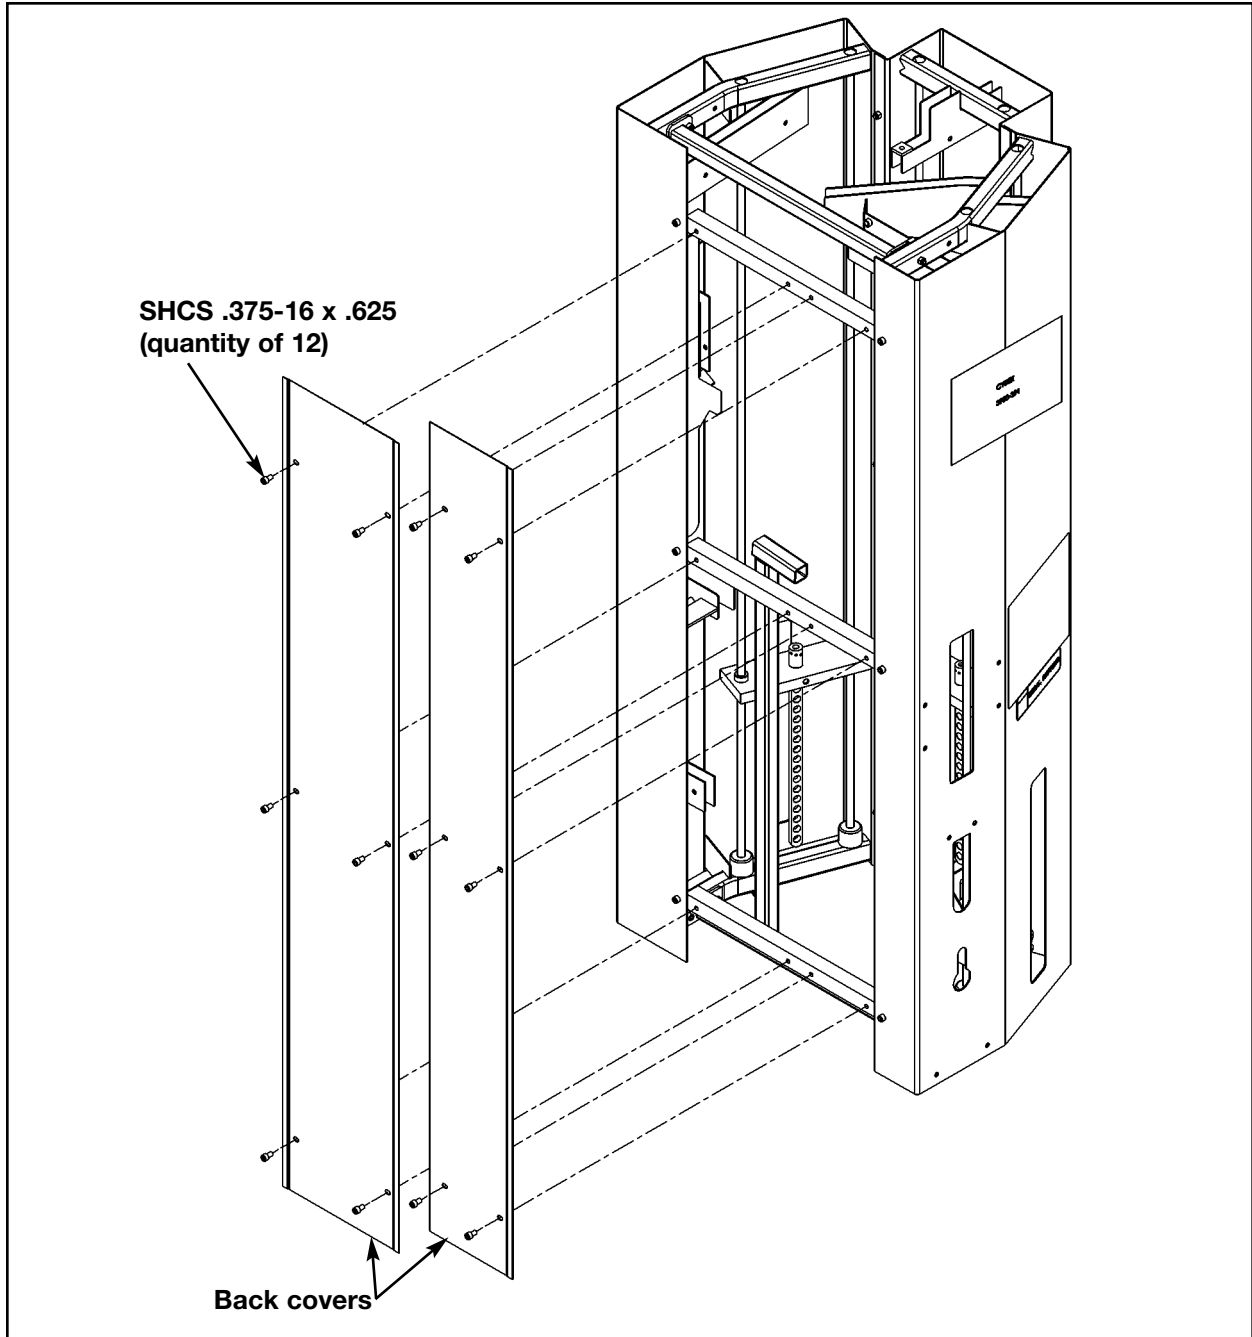

Figure 1
**3. Unpacking main frame assembly (see steps 3A - 3D and Figure 1, located on the next page).**
- B.** Using a 5/16" Allen wrench, remove the 12 SHCS .375-16 x .625 screws (six for each panel) securing the two back panels. See Figure 1.
A. Remove the shipping brackets securing main frame to the pallet. See Figure 1 located on the previous page.